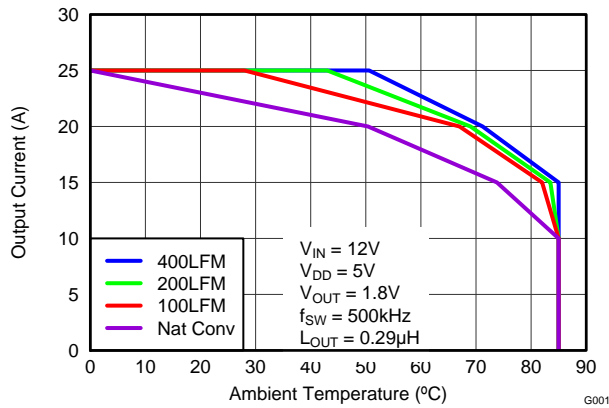
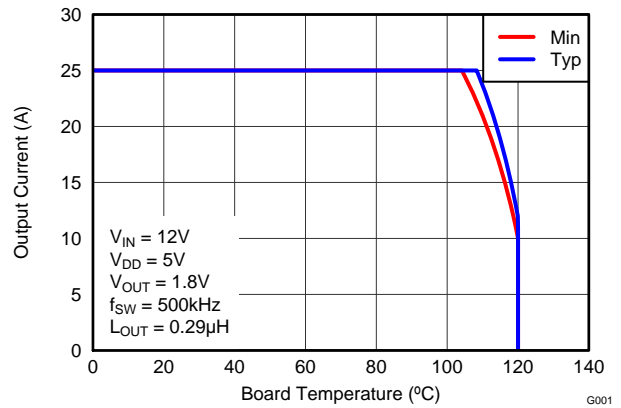

Figure 5. Safe Operating Area – PCB Horizontal Mount (1)
Figure 6. Typical Safe Operating Area (1)
The SOA curves in the CSD95375Q4M datasheet give engineers guidance on the temperature boundaries within an operating system by incorporating the thermal resistance and system power loss. Figure 5 and Figure 6 outline the temperature and airflow conditions required for a given load current. The area under the curve dictates the safe operating area. All the curves are based on measurements made on a PCB design with dimensions of 4.0" (W) x 3.5" (L) x 0.062" (T) and 6 copper layers of 1 oz. copper thickness.